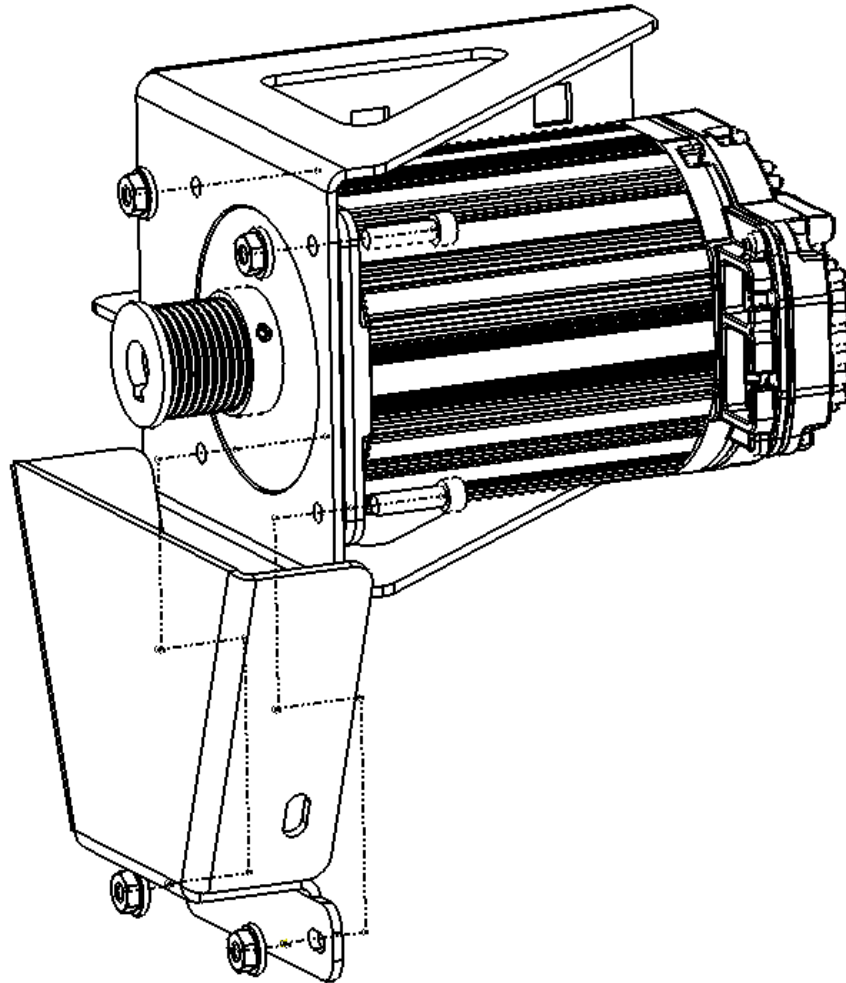

Figure 16: PWD drive motor mount
5. Remove the motor mount subassembly from the PWD. Remove the (4) #10-32 shoulder head cap screws and serrated flange nuts that connects the motor to the mount. Refer to Figure 16 for the mounting hardware locations. The torque requirement for #10-32 shoulder head cap screws is 80 in-lbs.